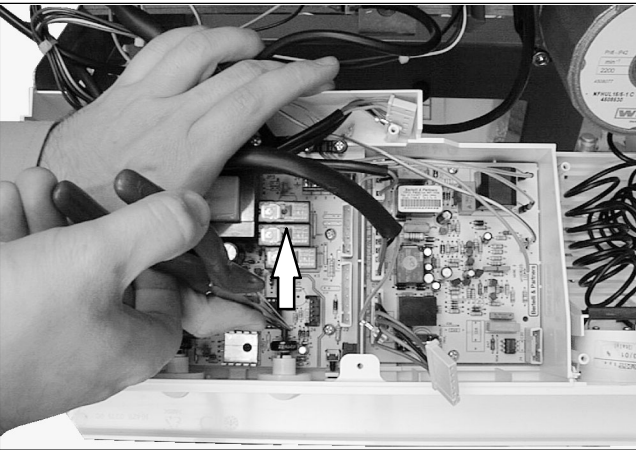

Fig. 39
- 3 Remove the spindles of the c.h. and d.h.w. temperature adjustment knobs by delicately pulling them with pliers in the direction shown by the arrow in Fig. 39.